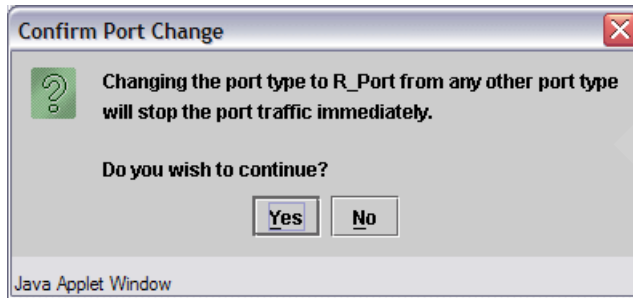

Figure 17-44 Port change warning
d. Click **Apply** and the warning in Figure 17-44 appears.